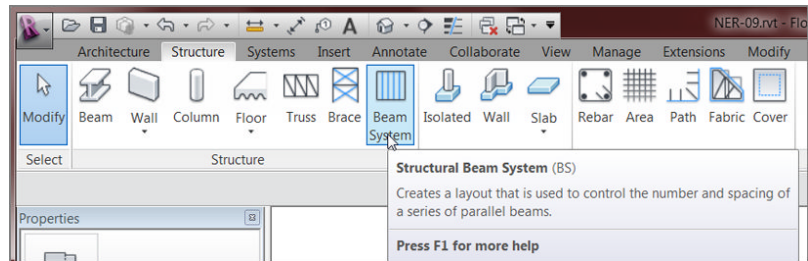

FIGURE 8.39: The Beam System button
1. On the Structure panel of the Structure tab, click the Beam System button, as shown in Figure 8.39.